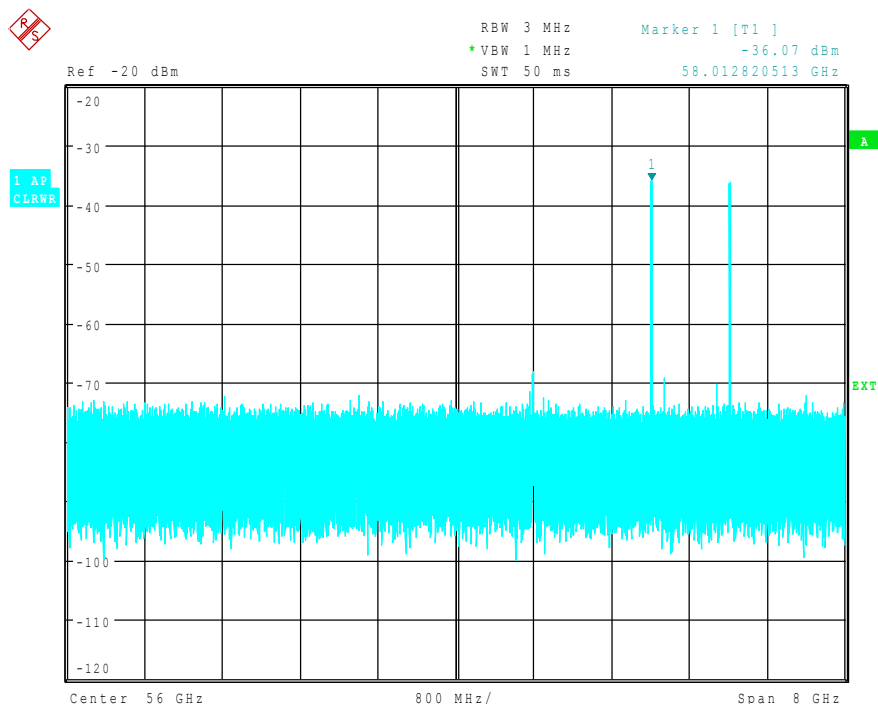

Fig. 4-40 Spectrum at the multiplier output recorded with an external mixer
- Reduce video bandwidth with [SWEEP COUPLING : VIDEO BW MANUAL : 1 MHz] A correct signal identification using *AUTO ID* is thus possible (see also "Remarks concerning Signal Identification with AUTO ID"). The display shown in Fig. 4-40 is obtained.
The spectrum represented in Fig. 4-40 contains the input signal and also a large number of unwanted mixer products. Two functions are provided by the Spectrum Analyzer to identify real input signals. The implemented methods are described in section “Signal Identification” on page 4.295. The *AUTO ID* function is used in this example.